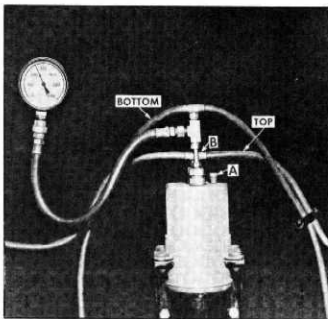

Fig. 62—Checking Pump Fluid Pressure
- To check fluid pressure in hydraulic lines with the top in a raised position install pressure gauge at "A" (fig. 62). Where operation of the top through the down cycle is to be checked, lower the top and install gauge at "B."